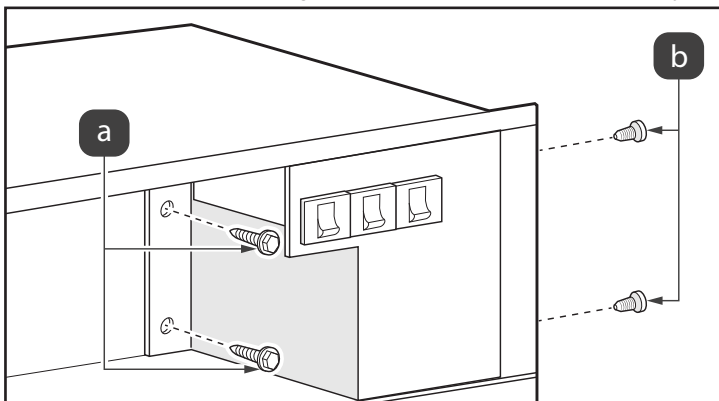

Figure 5. Remove Transformer Assembly
- Remove 2 inner retaining screws from transformer assembly, see Figure 5(a).
14. Remove 2 outer retaining screws from transformer assembly, see Figure 5(b).